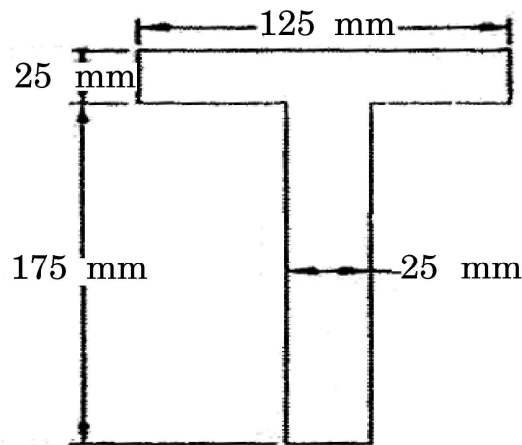

Fig. 4
4. (a) A simply supported beam carries a uniformly distributed load of intensity 30 N/mm over the entire span of 1 m. The cross-section of the beam is a T-section having the dimension as shown in Fig. 4. Calculate the maximum shear stress for the section of the beam. [6]